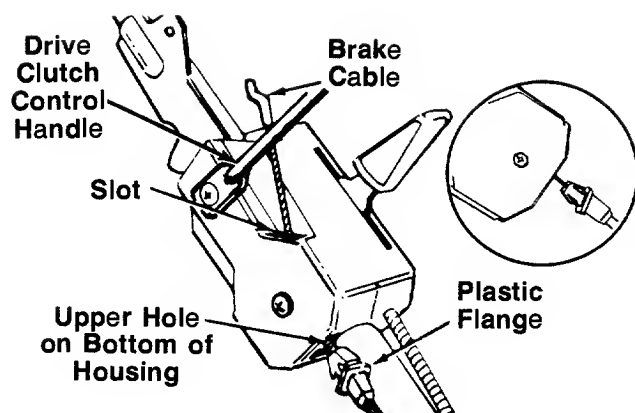
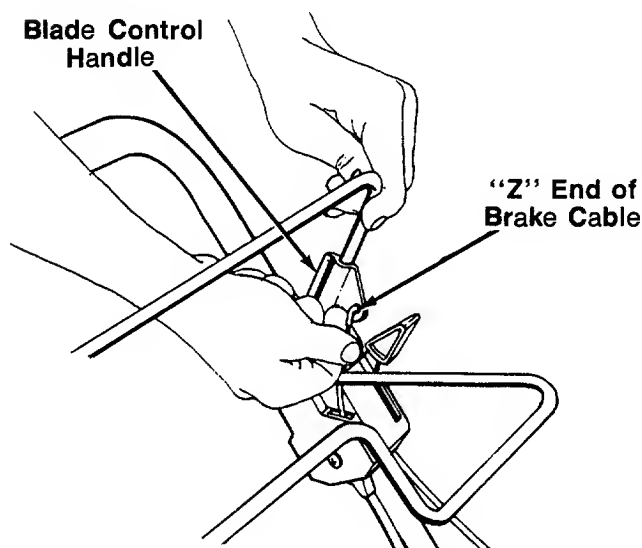

FIGURE 4.
FIGURE 5.
1. The brake cable is attached to the engine, and has a "Z" fitting on the loose end. Route the brake cable below the lower handle. Place end of cable into the upper hole on the bottom of the control housing, and through the slot as shown. The angle of the plastic flange must be positioned downward as shown in figure 4. Be careful not to bend or kink the cable at any time.
3. Route the brake cable to the outside of the drive clutch control handle. See figure 4. Hook the "Z" end of the brake cable into the hole in the blade control handle from the inside to the outside as shown in figure 5.